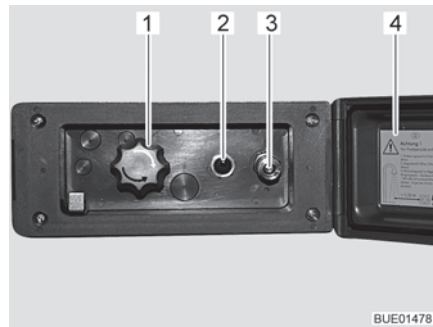

Fig. 106 External shower connection point
- Unlock and open the cover (Fig. 106,4).
- Attach hose of the external shower to the quick closure (Fig. 106,3).
- Switch on the water pump using the switch (Fig. 106,2).
- Adjust the water temperature with the rotary knob (Fig. 106,1) as desired.
- Switch off the water pump using the switch (Fig. 106,2).
- Close the cover (Fig. 106,4) and lock with key.
- Turn knob (Fig. 106,1) to the centre position.